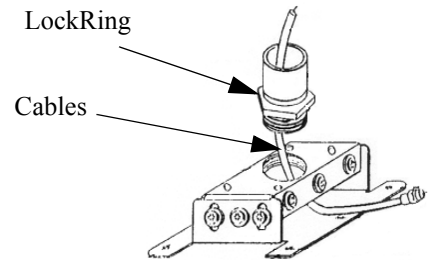

Figure 6. Lock Ring and Cables on RPA
2. Using four studs on mount and four thumb screws, secure the RPA to the mount (see Figure 6).
3. Thread the locking ring against the RPA to lock the RPA in position and, if desired, route the cables through the RPA and pipe as shown in Figure 6.